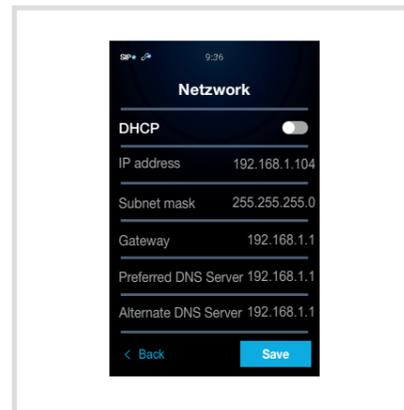

Fig. 37: Manual assignment
- For manual network settings, position **DHCP** on Off  (Figure 37).